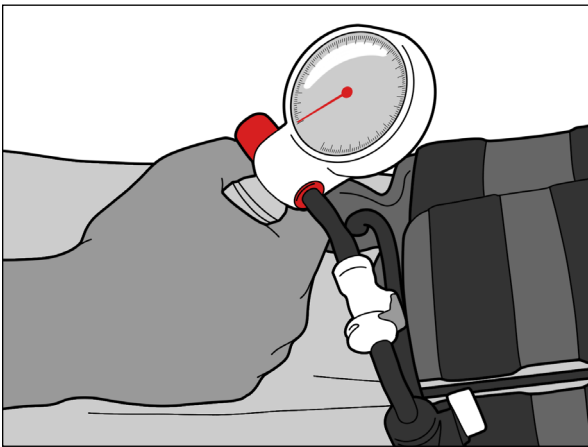

Fig. 13
6. Inflate the bladder to desired pressure by squeezing the bulb repeatedly (Fig. 13).